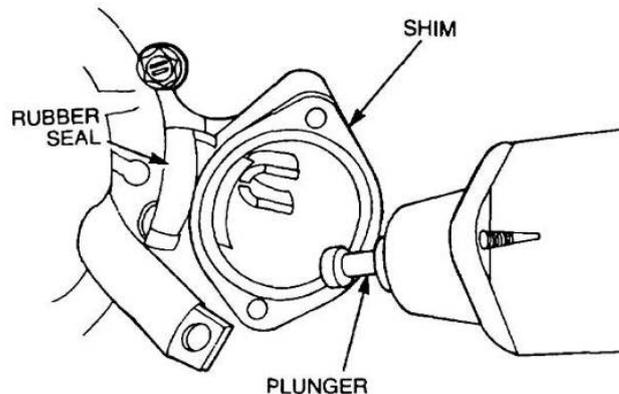

Figure 300 Removal of the Solenoid
- d. Remove the two screws securing the solenoid to the starter motor housing and remove the solenoid by disengaging the plunger from the clutch lever (Figure 300). Remove the shim.